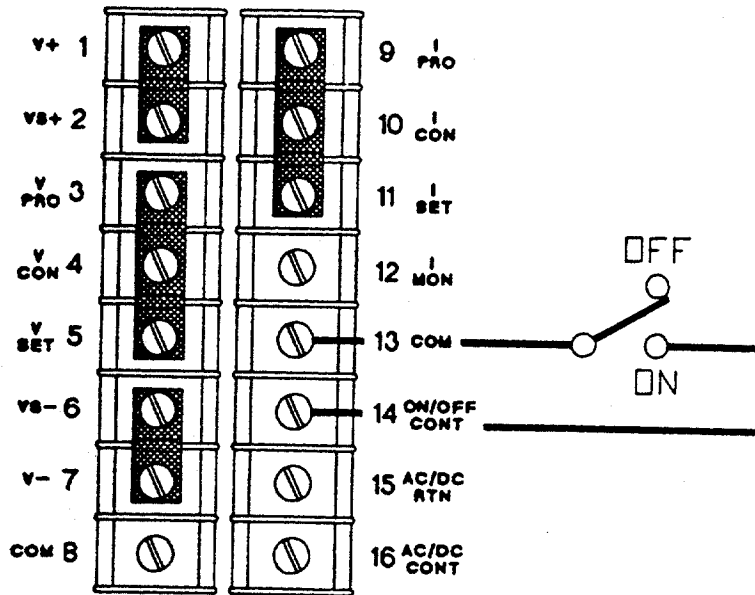

FIGURE 3-8
- (1) Remote on/off by contact closure. See Figure 3-8 for strapping requirements. Output is on when contacts are closed.